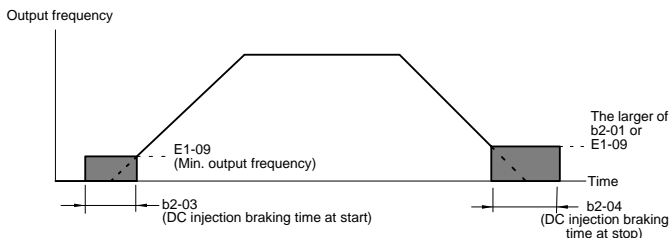

Fig 7.8 DC Injection Braking Timing Chart
- Figure 7.8 provides a timing chart of DC injection braking (initial excitation).